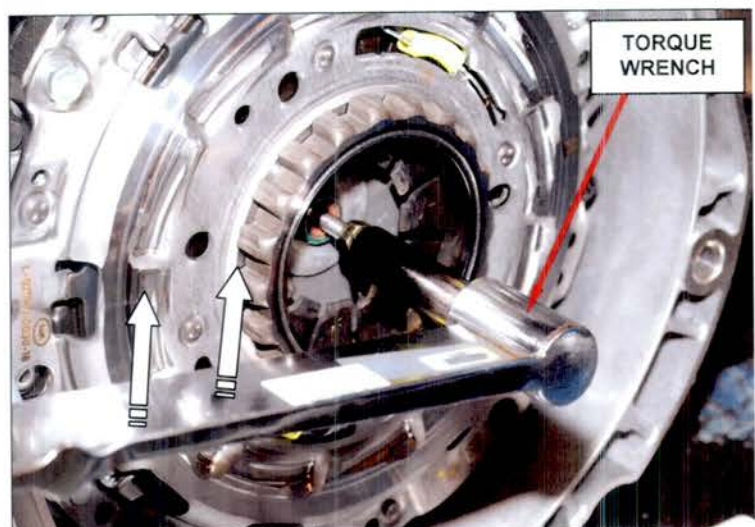

Figure 24 – Tighten Slave Cylinder Rod
57. Using a torque wrench, tighten the slave cylinder rod to 80 in. lbs. (9 N·m) (Figure 24).